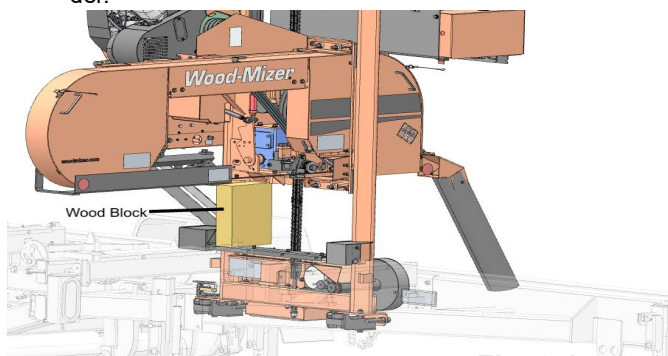

Fig. 2-1
**WARNING!** When servicing the saw head or areas near the saw head, always secure the saw head with a chain with a minimum of 1900 lbs. working load capacity. Alternatively, the saw head can be secured by placing a sturdy wood block between the saw head and sawmill frame. See Fig. 2-1.